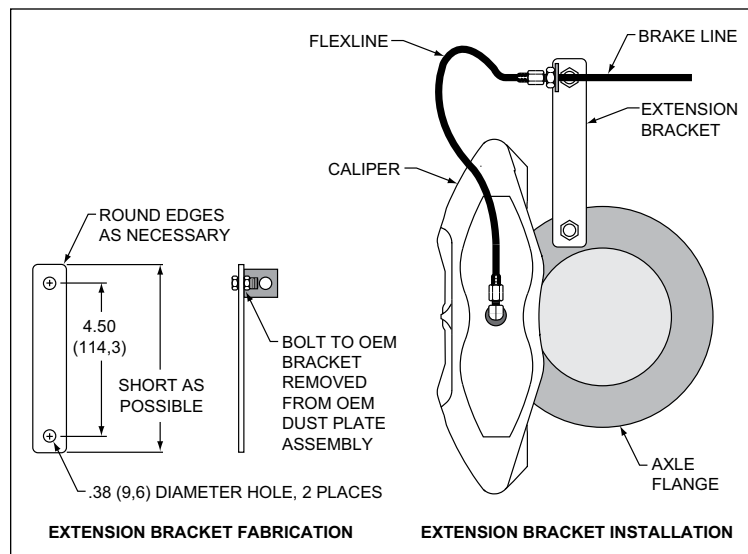

Figure 4. Brake Line Bracket Fabrication / Installation
•**NOTE:** OEM rubber brake hoses generally cannot be adapted to Wilwood calipers. The caliper inlet fitting is a 1/8-27 NPT. The preferred method is to use steel adapter fittings at the caliper, either straight, 45 or 90 degree (use PTFE tape on pipe threads of adapter fitting for proper sealing to caliper) and enough steel braided line to allow for full suspension travel and turning radius, lock to lock. **Carefully route lines to prevent contact with moving suspension, brake or wheel components.** Wilwood hose kits are designed for use in many different vehicle applications and it is the installer's responsibility to properly route and ensure adequate clearance and retention for brake hose components. Wilwood offers a hose kit, P/N 220-9855, which includes hoses, fittings, etc., all in one package for this application. Dependent on the application, line kit installation may require a support bracket to be fabricated, then bolted in place to support the original hardline (not included in kit), see Figure 4.